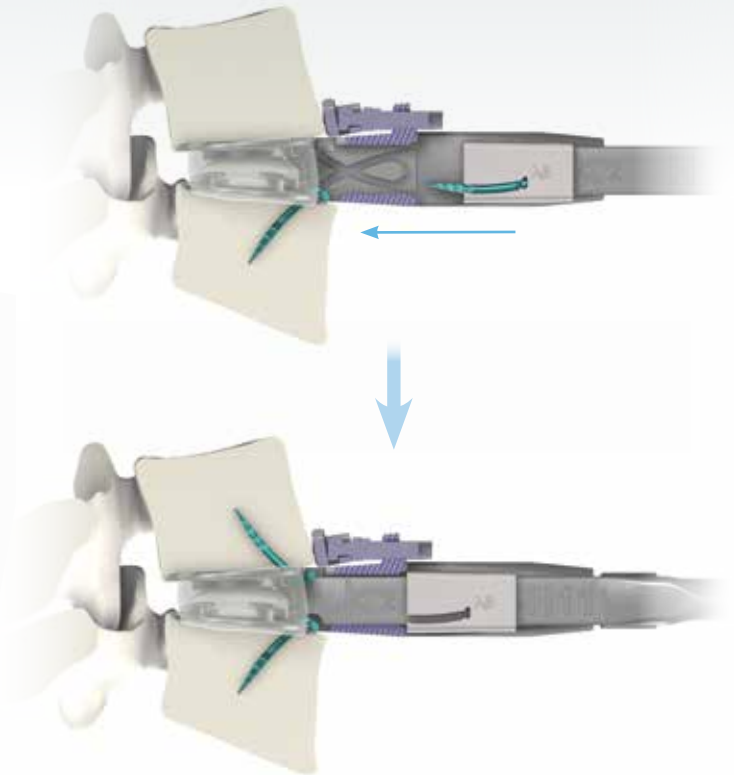

Figure 46
- Thumb push on the impactor to bring the anchoring clip in contact with the bone (**Figure 46**).